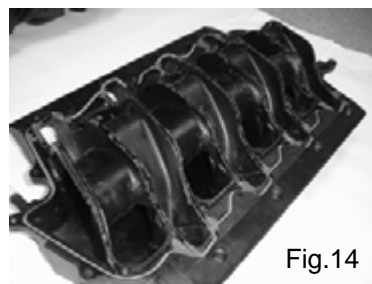

Fig.14
Your new FAST™ LSX™ manifold is shipped with the inner piece sealed and pre-assembled to lower. The upper is loosely attached with (14) M6 bolts. Remove bolts and upper shell. Inspect cord seal to insure it is still in place in perimeter groove and runner grooves as shown (fig.14), and re-assemble upper shell using the (6) shorter bolts.